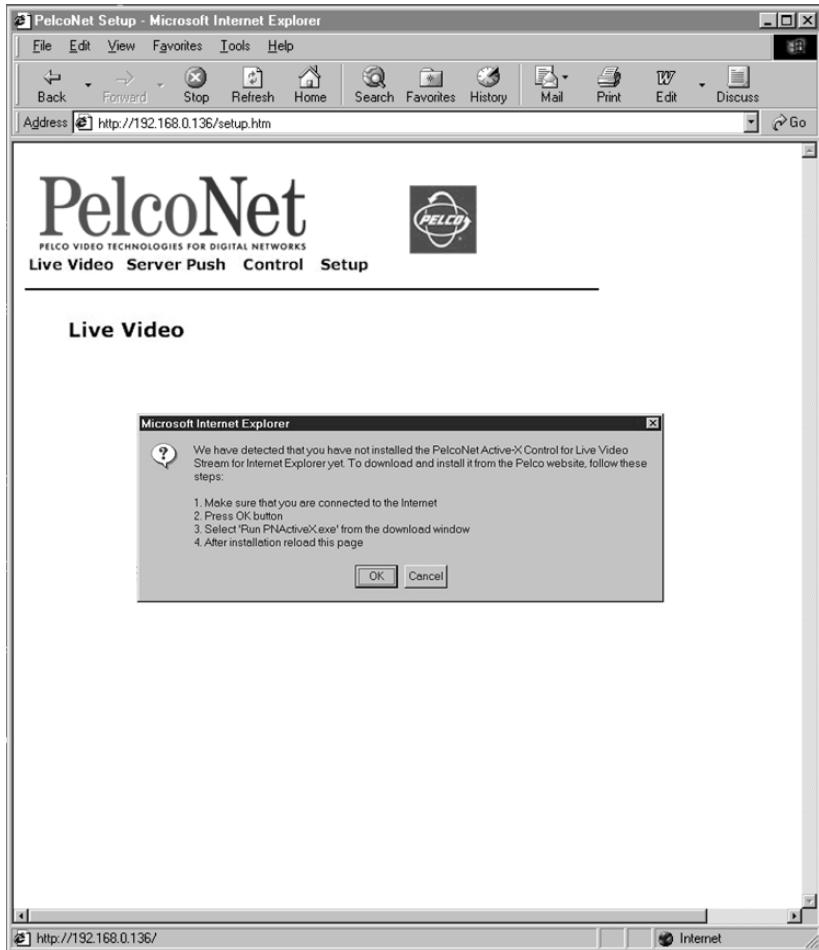

Figure 32. ActiveX Dialog Box
- Without first installing ActiveX (Figure 32).